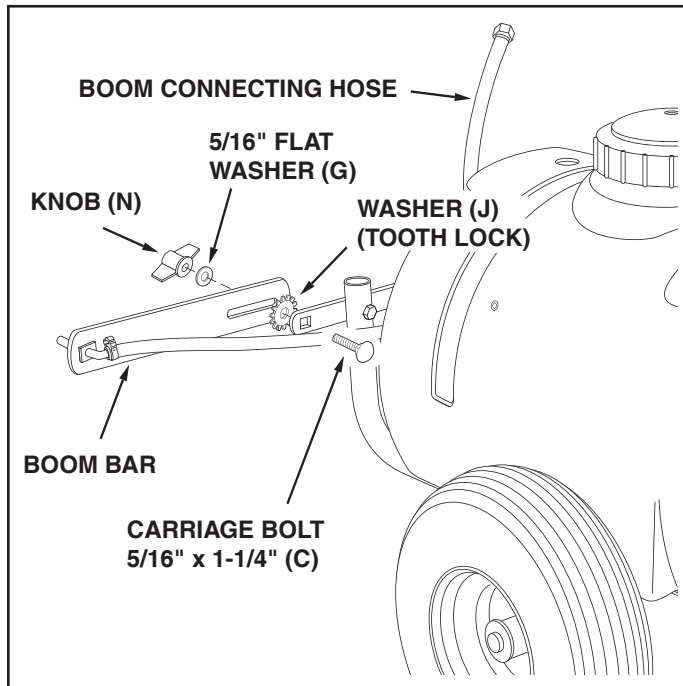

FIGURE 6
STEP 6: (SEE FIGURE 6)
- Assemble the boom bars to the boom mount bracket using two 5/16" x 1-1/4" carriage bolts (C), tooth lock washers (J) (between the bar and bracket), 5/16" flat washers (G) and knobs (N). The boom connecting hose should extend upward.